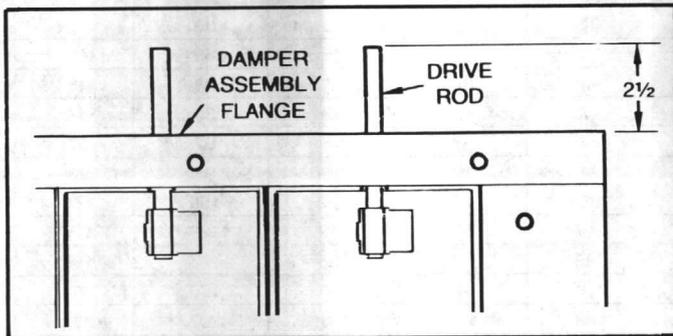

FIGURE 16 - Zone Damper Blade Assembly
1. Loosen the damper rod clip screws and extend each drive rod 1-1/2 inches beyond the edge of the damper assembly flange. See Figure 16.